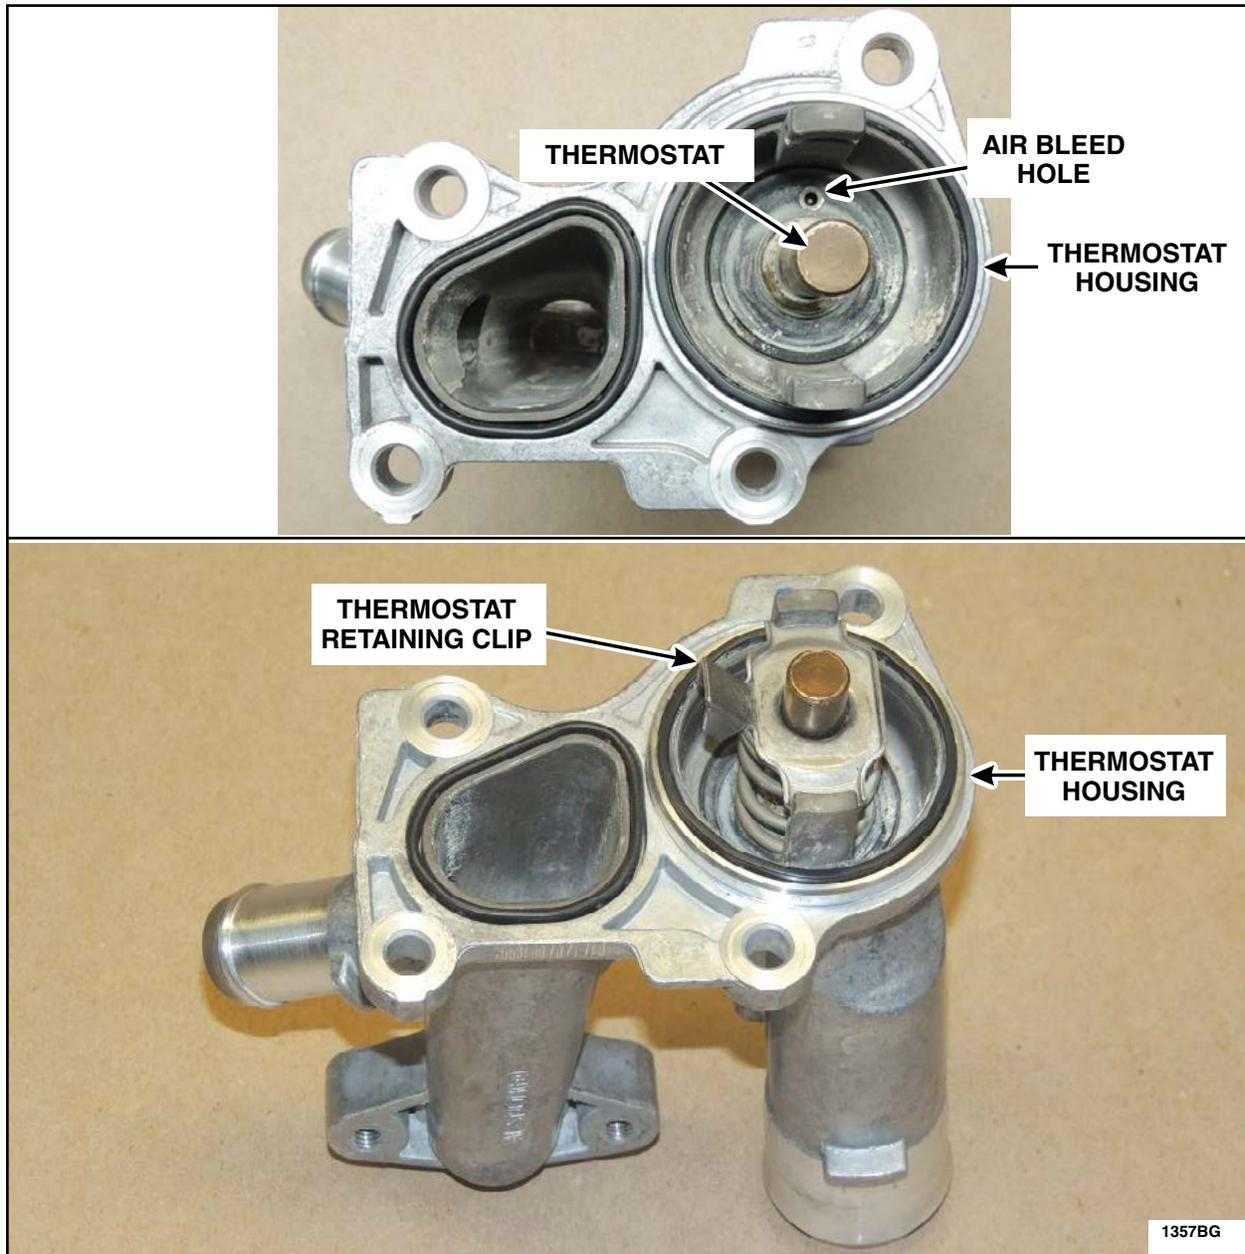

**FIGURE G2**
3. Remove and discard the thermostat. See Figure G2.
4. Position the *new* thermostat into the housing with the air bleed hole positioned upward. Use a 13 mm (1/2 in) deep well socket to install the thermostat spring and clip. The retaining clip must be in the same orientation that it was in prior to removal. See Figures G2 and G3.